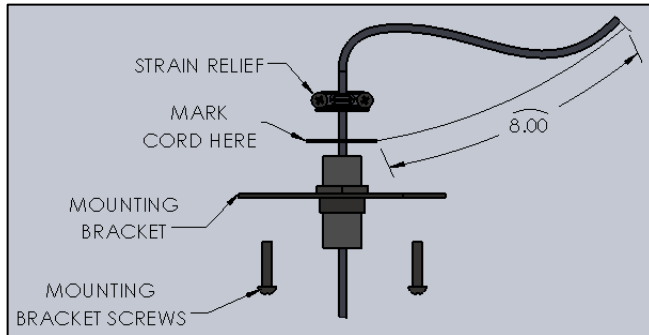

FIG. 31 – DETAIL B (SHOWING CORD TRIM INFORMATION)
24. Mark CORD with marker above the all-thread and trim off excess cord leaving minimum of 8" past the top of the all-thread as shown below in fig. 31.